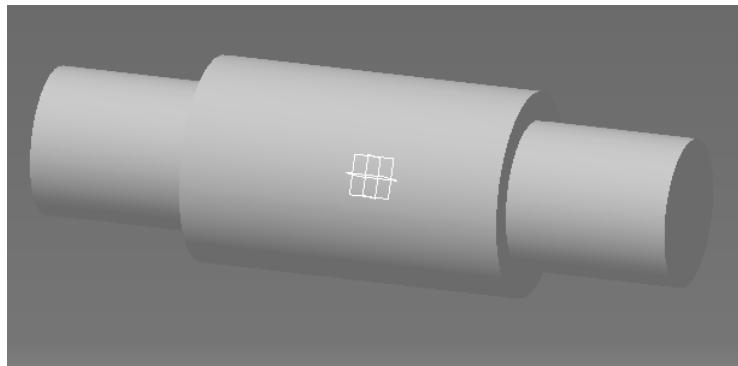

Figure 1.6
- 1.16 Select the OK button. The part should look similar the part shown in figure 1.6.